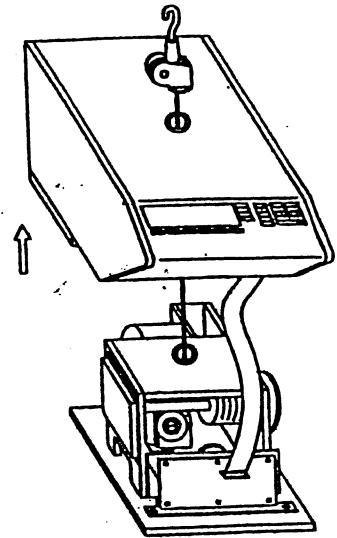

Figure 4
Step 6. Pull up the cover gently together with pulley until they come off the mechanism. (See Fig.4)